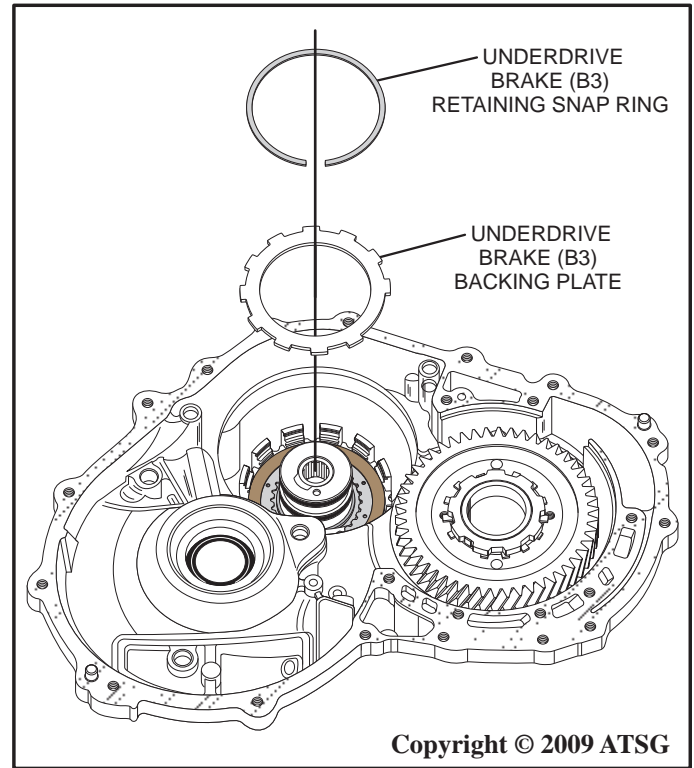

Figure 191
90. Install the underdrive brake (B3) backing plate into the case as shown in Figure 191.
91. Install the underdrive brake (B3) retaining snap ring as shown in Figure 191.